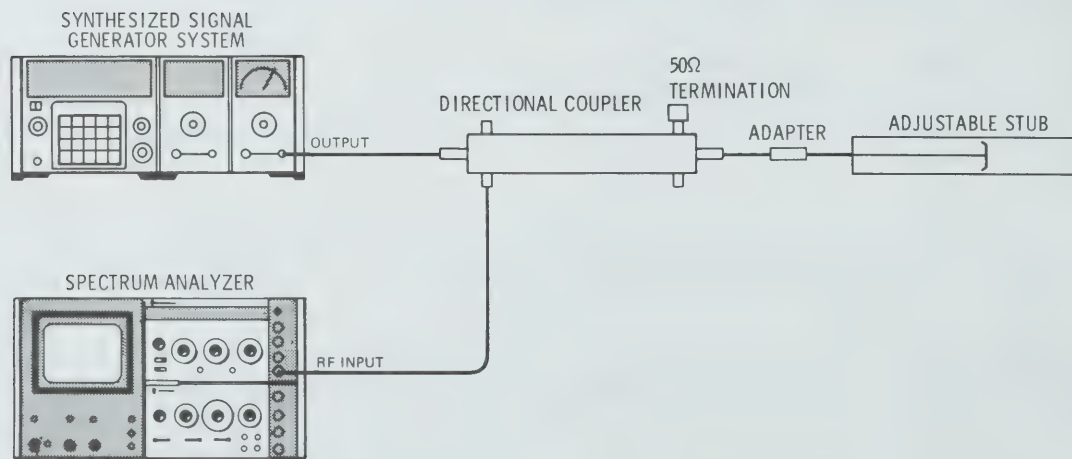

Figure 4-7. Output Impedance Test Setup
2. Set up the equipment as shown in Figure 4-7.